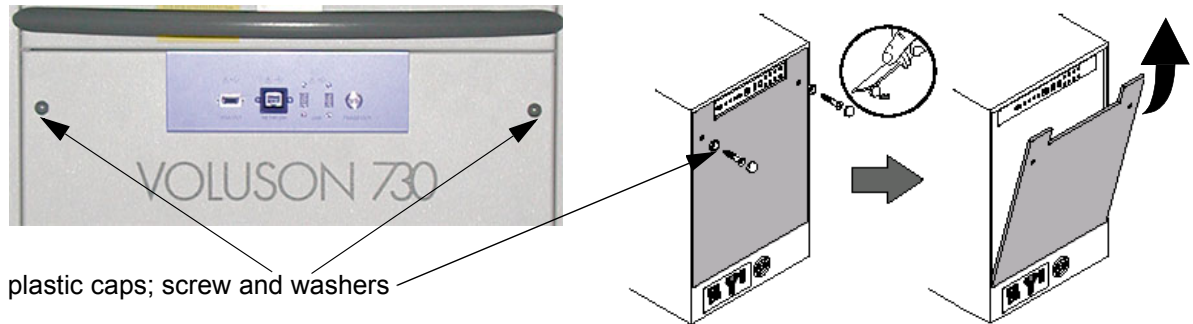

Figure 3-6 Remove rear cover plate
- 1.) Carefully remove plastic caps using a knife and loosen screws and washers (see: Figure 3-6).